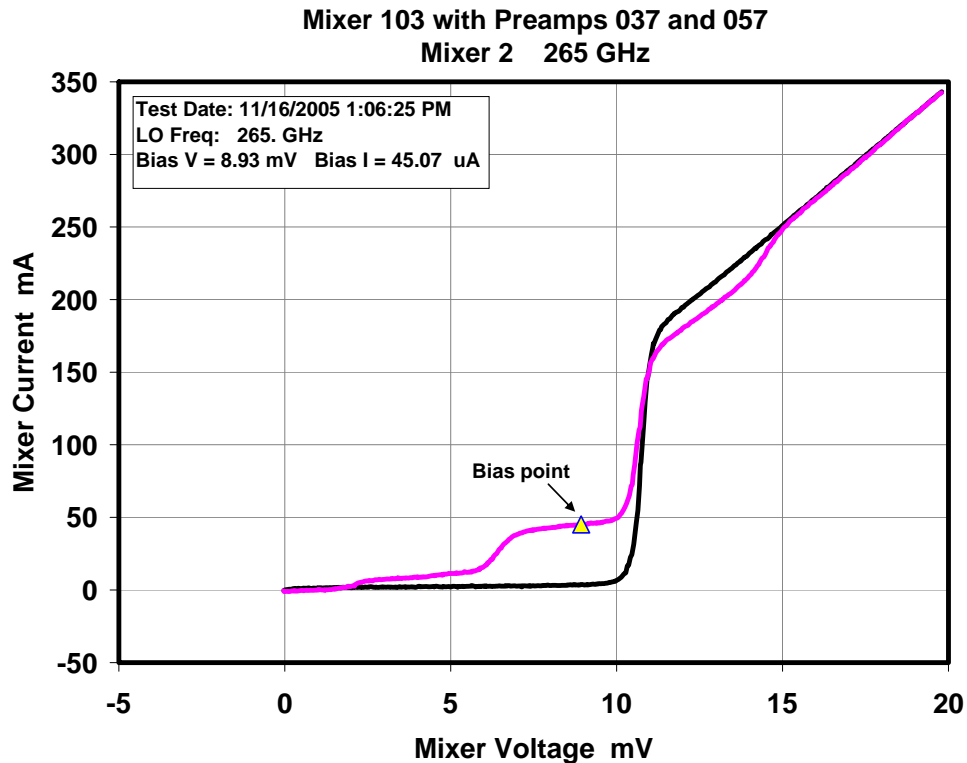

Figure 6: Typical I(V) curves for a Band 6 mixer without LO power applied (black curve) and with LO power applied (pink curve).
- (e) Record the I(V) characteristics of the four mixer chips and verify that they are close to those in the cartridge data. Typical I(V) curves are shown in Figure 6.
- (h) Record the pumped I(V) characteristics of the four mixer chips and verify that they are close to those in the cartridge data. Typical curves are shown in Figure 6.